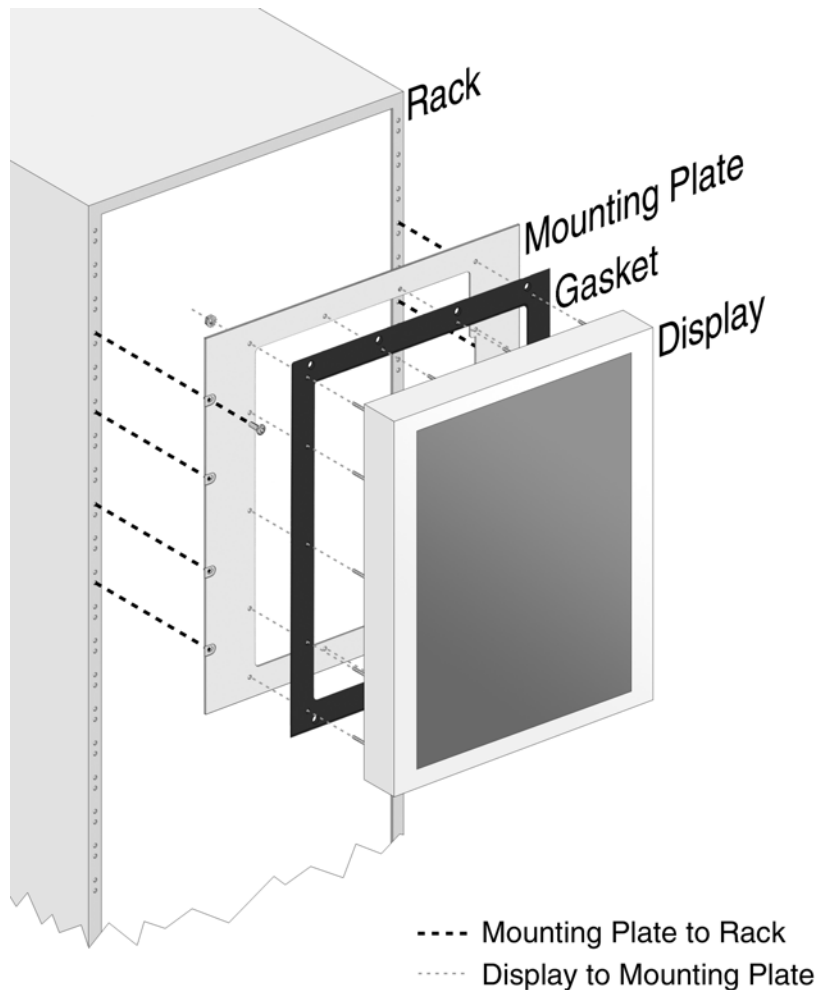

Figure 4: Rack-Mount Portrait Installation
1. Align mounting plate rack-mount holes with server rack mounting holes; see Figure 4 for correct mounting orientation. **Ensure gasket faces outward.**